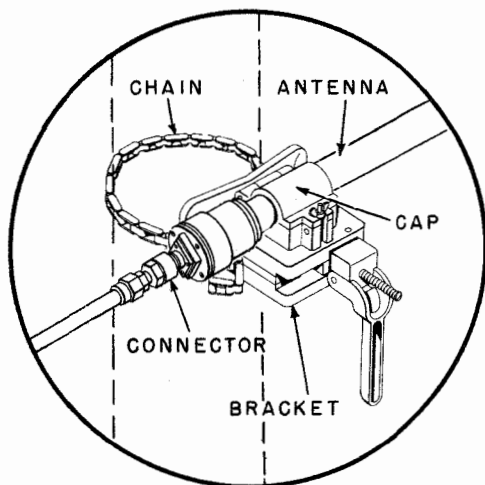

Figure 3-19. Antenna Vise for Field Applications
Step 2. Firmly attach the vise to a tree or other convenient support by means of the chain clamp. The assembly should be located in a clear space and should be as high as possible. See Figure 3-19. If the RDR receiver is to be used in combination with the MAR equipment, there should be a space of at least ten feet between the two antennas.